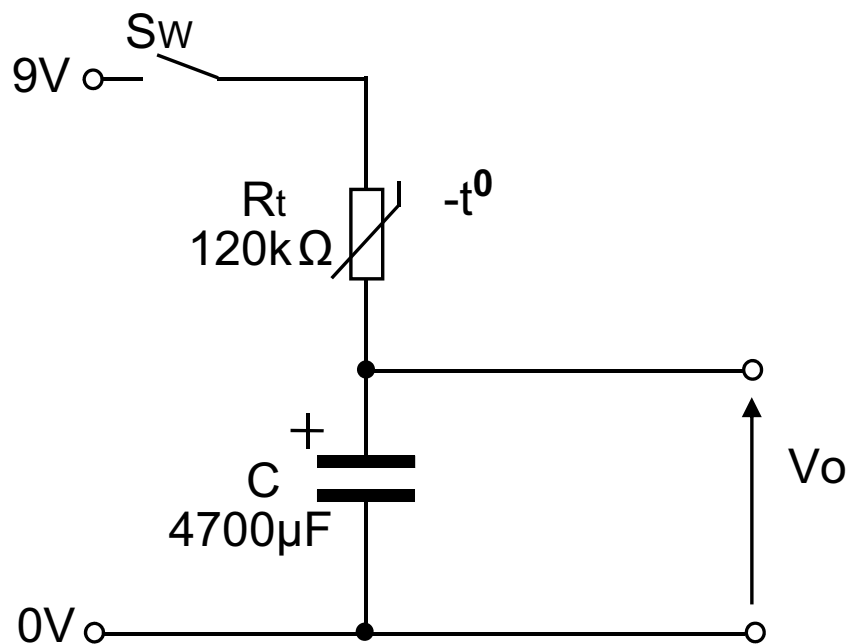
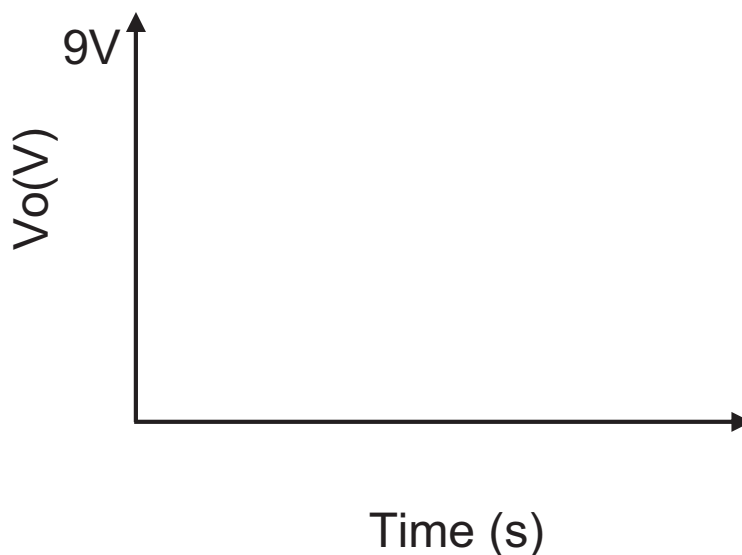

Fig. 6
Fig. 7
- 2 (a) An RC circuit for timing purposes is shown in **Fig. 6**. It consists of a switch, a thermistor and an electrolytic capacitor.
- (ii) The thermistor shown in **Fig. 6**, has a negative temperature coefficient. Explain what is meant by the term 'negative temperature coefficient' when referring to a thermistor. [2 marks]
- (iii) Using the component values shown in **Fig. 6** on page 8, calculate the time constant for the circuit.
- (iv) Assuming that the capacitor shown in **Fig. 6** has been fully discharged, sketch and label a graph on the axes in **Fig. 7** below showing V_o against time when switch Sw is closed. Indicate the time constant, labelling the values on both axes.